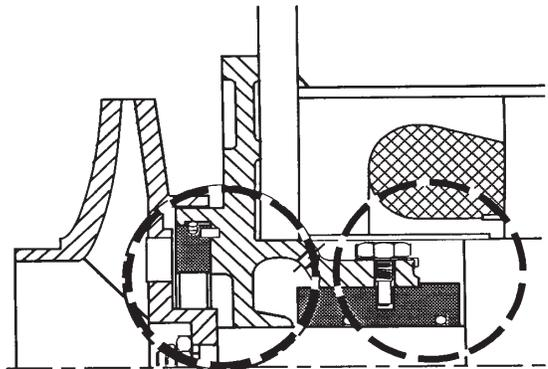

Figure 1-6. Thrust Surfaces Model
- B) Single Stage Model GVBS. See Figure 1-6.